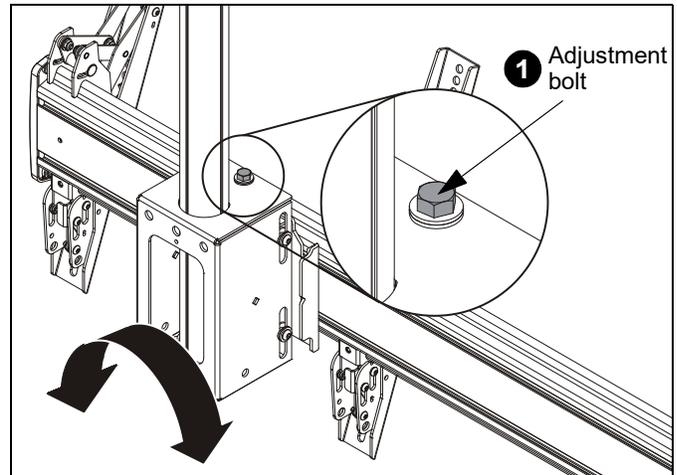

Figure 21
1. Turn the adjustment bolt in the direction necessary to level or adjust height. (See Figure 21)